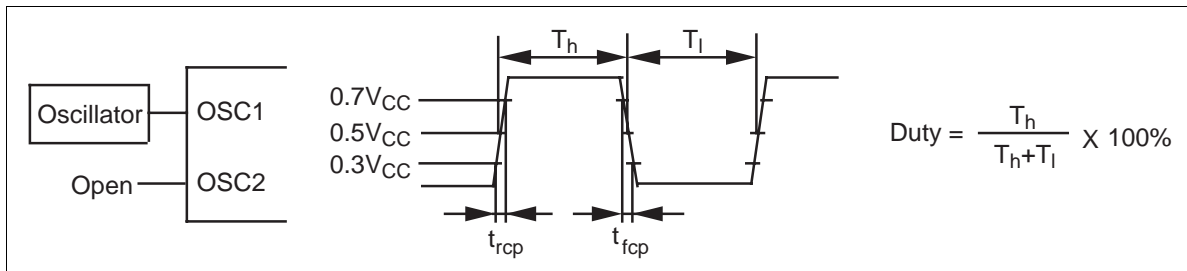

Figure 53 External Clock Supply
13. Applies to the external clock input (Figure 53).